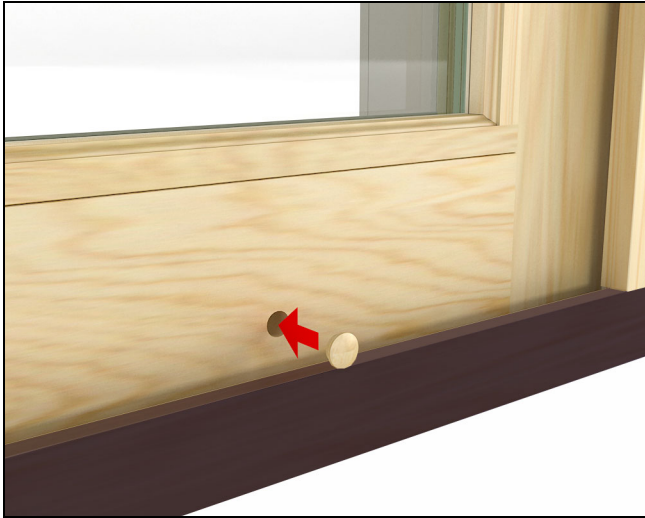

Figure 161
9. Tap wood adjustment hole button into each roller adjustment hole using a soft rubber mallet. See figure 161.